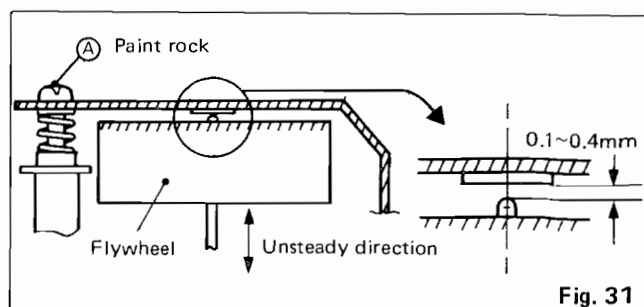

Fig. 31
Insert an thickness gauge between the flywheel and the flywheel bracket, and adjust the opening between 0.1 - 0.4mm by rotating screw (A) in Fig. 31.